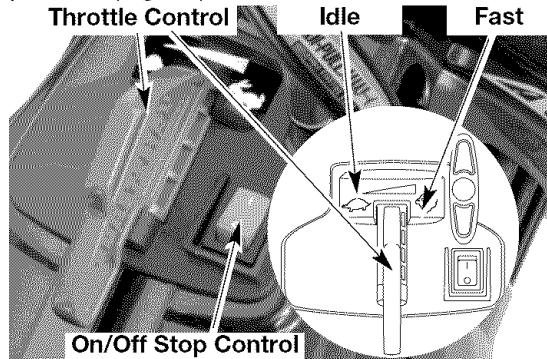
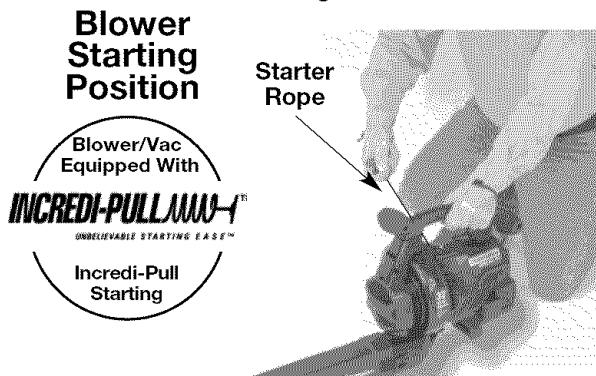
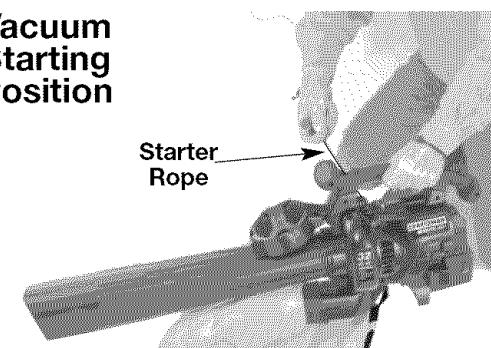

Fig. 9
Fig. 11
Fig. 12
**WARNING:** Avoid accidental starting. Make sure you are in the starting position when pulling the starter rope (Fig. 11 and 12). To avoid serious injury, the operator and unit must be in a stable position while starting.
4. Place the unit in the starting position (Fig. 11) as a blower, Fig. 12 as a vacuum. **Move the throttle control to the idle position** (Idle) (Fig. 9). This is especially important during cold starting.